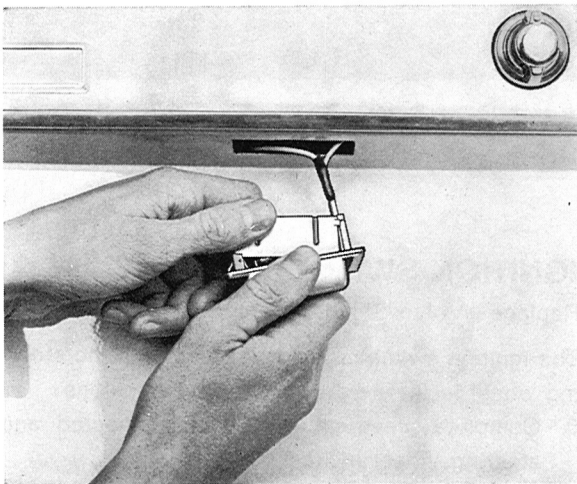

Fig. 3-114. Disassembling license plate light
3. Disassemble the plate according to Fig. 3-114.